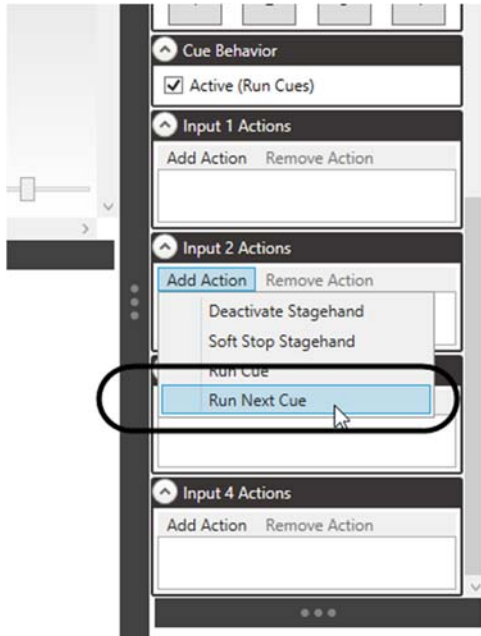

Figure 193
2. In the Input (1, 2, 3, or 4) Action section of the Stagehand Editing Pane, click the Add Action button (Figure 193).
3. Select Run Next Cue as the action type (Figure 193).